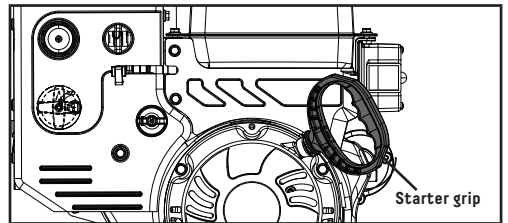

Figure 9C
6. Stand back and to the right of the unit, pull the starter grip lightly until you feel resistance then pull briskly. Return the starter grip gently (Fig. 9C).